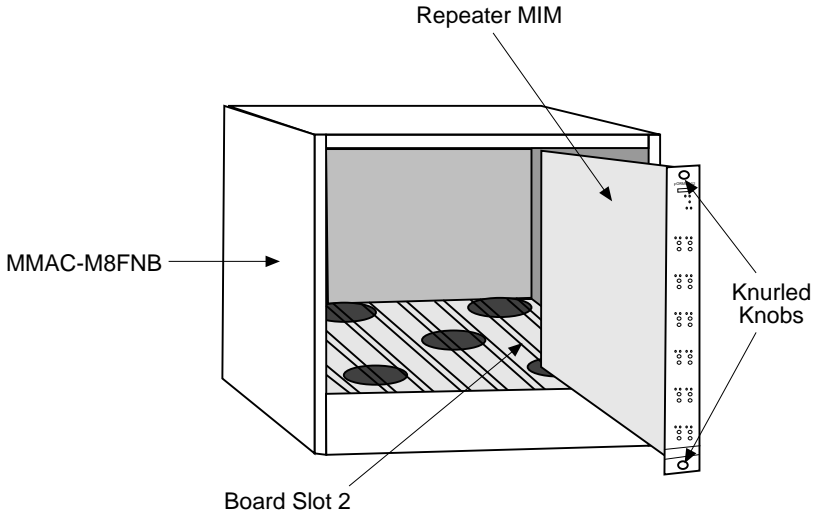

Figure 3-3. Installing the RMIM
1. Slide the module (Fig. 3-3) into the MMAC's card cage. Be sure that the card is in the top and bottom slots of the case.